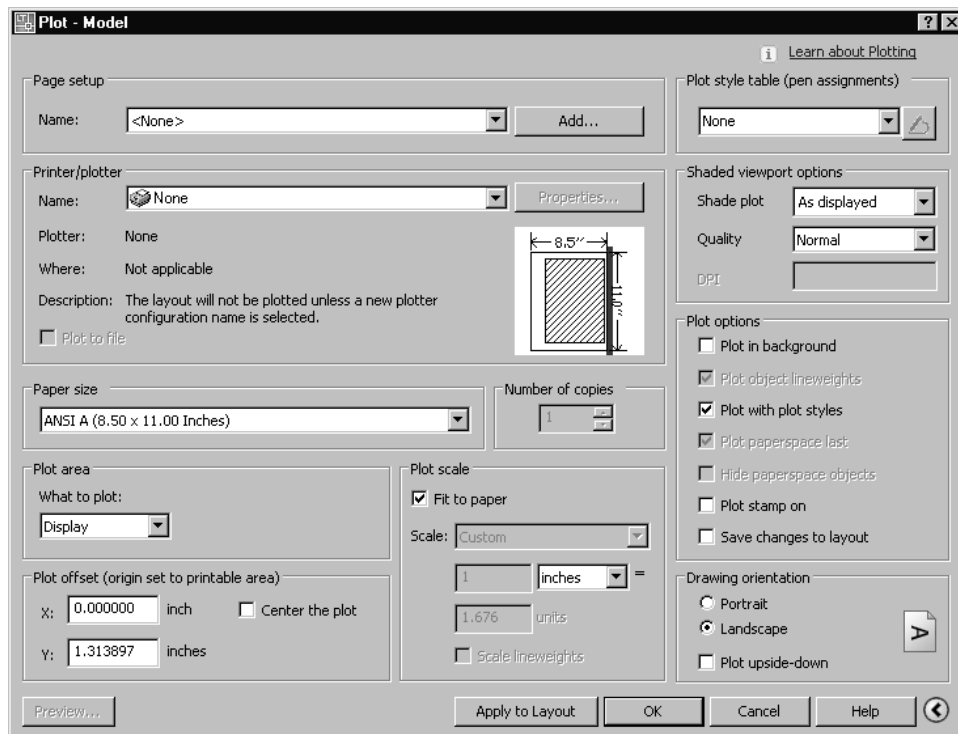

Figure 2-56 Expanded form of the **Plot** dialog box
4. To set the size for the plot, you can select a size from the drop-down list in the **Paper size** area, which lists all the plotting sizes that the present plotter can support. You can select any one of the sizes listed in the dialog box or specify a size (width and height) of your own through the **Plotter Manager**. (This option is discussed later in Chapter 12, Plotting Drawings.) Once you select a size, you can also select the orientation of the paper. However, to set the orientation, you need to expand the **Plot** dialog box by choosing the **More Options** button at the lower right corner of the dialog box. The expanded form of this dialog box is shown in Figure 2-56. To set the orientation, select the **Landscape** or **Portrait** radio buttons from the **Drawing orientation** area. The sections in the **Plot** dialog box related to paper size and orientation are automatically revised to reflect the new paper size and orientation. In this example, you will specify **A4** Paper size and **Portrait** orientation.